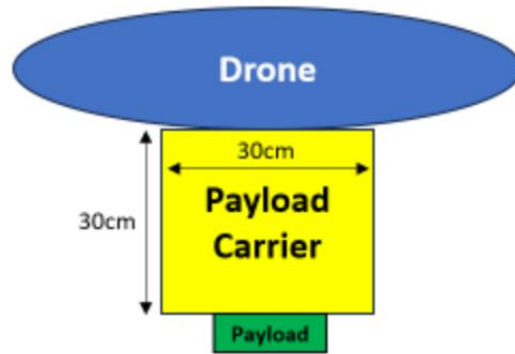

Figure 7 - Payload carrier
2. The beanbags will be approximately **12cm (H) X 12cm (W)** and weigh approximately **85g each**.
6. Carriers should not measure more than **30cm in any direction**, this includes any ropes or sticks. These measurements only apply to the carrier. For instance, if the payload carrier is exactly 30cm and the payload is intended to be mounted on top of it (Figure 7), it will be considered compliant.